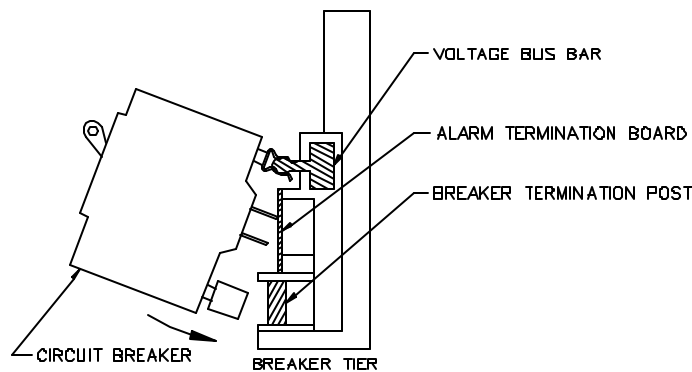

Figure 5-8 Plug-in Circuit Breaker Insertion
- 3) Install the circuit breaker(s) by snapping the top terminal onto the upper bus bar and rotating the unit down until the second terminal snaps onto the breaker termination post as shown in Figure 5-8. The breaker alarm terminals are designed to make contact with the alarm terminal board as the breaker is snapped into place.